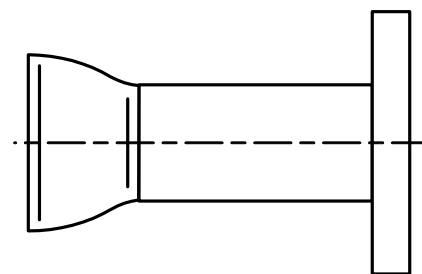

Fig.4
- b) If necessary, weld the adaptors to the opposite ends of the runs (Fig.4)